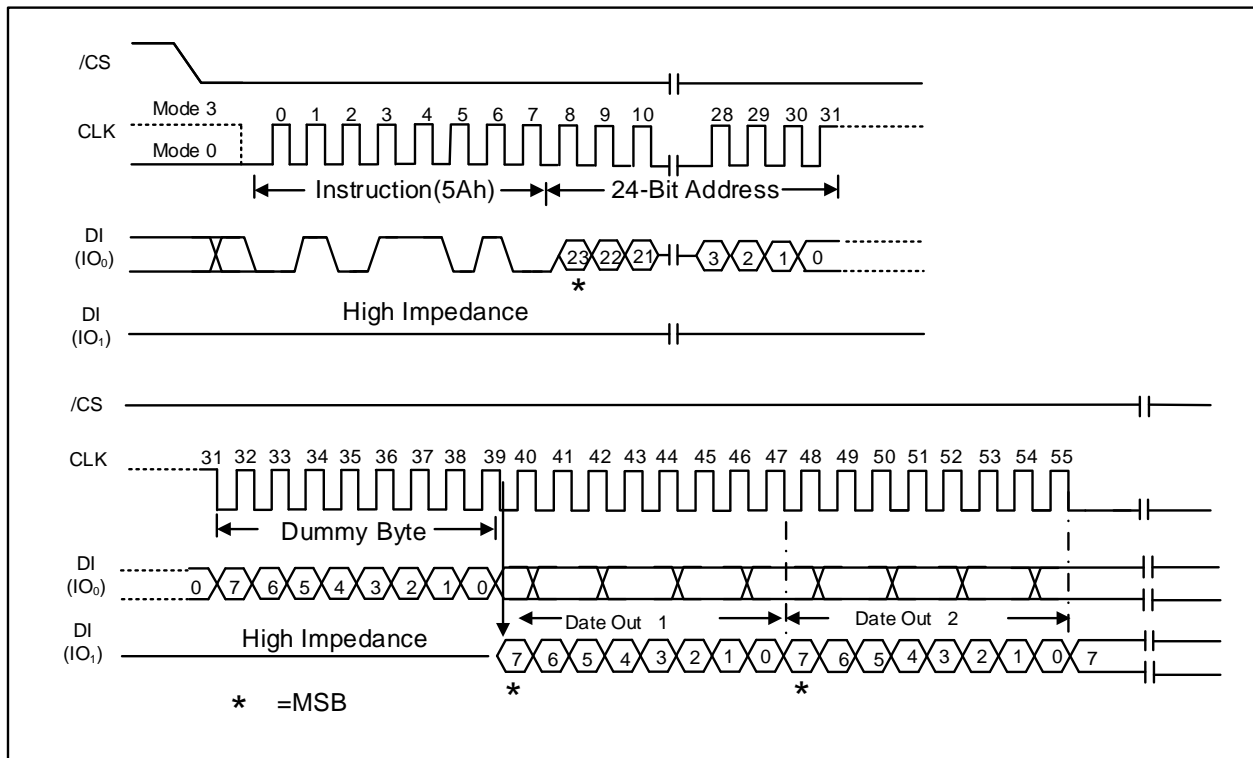

Figure 38. Read SFDP Register Instruction Sequence Diagram(Only SPI Mode)
The Read SFDP instruction is initiated by driving the /CS pin low and shifting the instruction code “5Ah” followed by a 24-bit address (A23-A0)(1) into the DI pin. Eight “dummy” clocks are also required before the SFDP register contents are shifted out on the falling edge of the 40th CLK with most significant bit (MSB) first as shown in Figure 38. The byte address is automatically incremented to the next byte address after each byte of data is shifted out. The last byte address of the register is FFh (the data will always be FFh when read after the last address), For SFDP register values and descriptions, please refer to please refer to the following SFDP Definition Table.